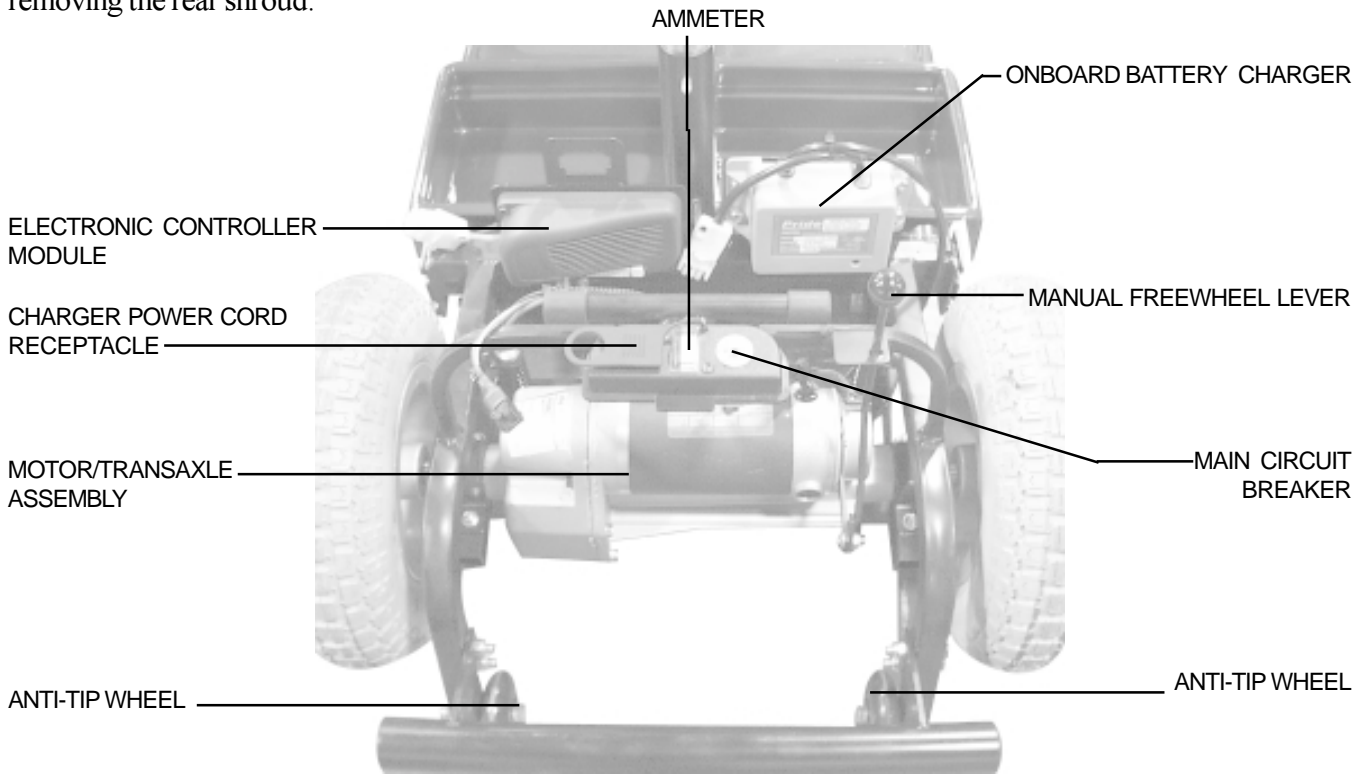

Figure 7. Rear Section
The onboard battery charger, the charger power cord receptacle, the batteries (not shown), the electronic controller module, the main circuit breaker, the manual freewheel lever, and the motor/transaxle assembly are located on the rear section of your Victory XL. See figure 7. Refer to IX. “Disassembly and Assembly” for instructions on removing the rear shroud.
- The charger power cord plugs into your Victory XL’s battery charger by means of a receptacle located on the rear section of your Victory XL, near the manual freewheel lever and the main circuit breaker reset button. See figure 7.
- The main circuit breaker is mounted on the rear section of the Victory XL, near the manual freewheel lever. See figure 7.
You can check the charge of your batteries by looking at the ammeter, which is located between the main circuit reset button and the charger power cord receptacle. The battery charger must be plugged into a wall outlet to obtain a reading. When the amperage reading is at or near zero (0) amps, the battery charging is complete. See figure 7.
- The manual freewheel lever is located on the end of the motor/transaxle assembly at the right rear of the Victory XL. See figure 7.
The motor/transaxle assembly consists of a geared transmission and differential. This one piece, direct drive, fully sealed assembly provides quiet operation with maximum power and long life. See figure 7.
The anti-tip wheels are an integral and important safety feature of your Victory XL. Do not under any circumstances remove the anti-tip wheels from your Victory XL. See figure 7.
Your Victory XL uses two long-lasting, 12-volt, deep-cycle batteries that are sealed and maintenance free. They are recharged by an onboard 3-amp charging system designed for ease of use and convenience. See figure 7.
4. Plug the charger power cord into the charger power cord receptacle at the rear of your Victory XL. See figure 7.
7. You can check the charge periodically by the battery condition meter on the control console assembly. However, you must first unplug the battery charger and then insert the key. The battery condition meter on the control console assembly indicates the approximate strength of your batteries. When fully charged, the meter reads 24 volts. You can also check the charge by the ammeter. See figure 7. The battery charger must be plugged into a wall outlet to obtain a reading. When the amperage reading is at or near zero (0) amps, the battery charging is complete.